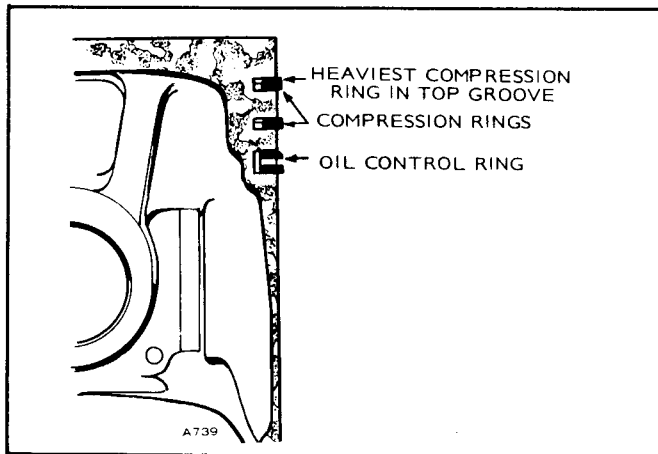

FIGURE 21. PISTON RINGS
3. Install the rings on the pistons starting with the oil control ring (Figure 21). Use a piston ring spreader to prevent twisting or excessive expansion of the ring. Some oil control rings and all compression rings have a dot or the word "top" on one side of the ring to indicate which side faces the top of the piston. Unmarked piston rings can be installed either way. If the oil control ring has a coil expander, install the expander first and then close until the coil ends butt. The joint should be 180 degrees from the gap of that ring.